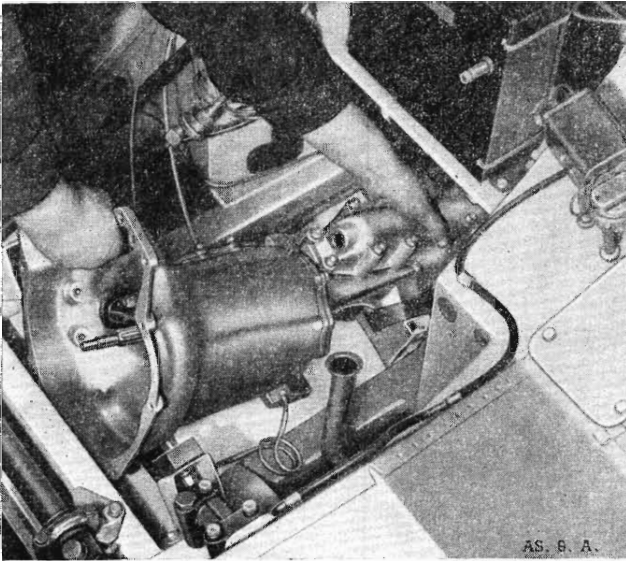

Fig. F.1. Removing the gearbox from the vehicle.
- (9) Lift the gearbox together with the propeller shaft clear of the vehicle as shown in Fig. F.1.